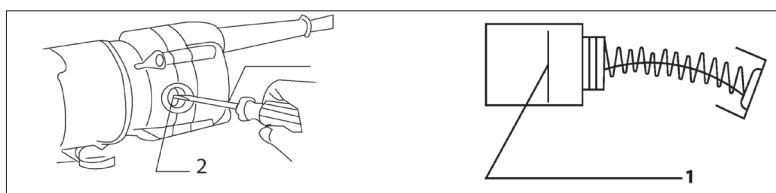

Fig.17
- b. Carbon brushes which are worn out (burned, broken or shorter than limited length see Fig.17) have to be replaced by new ones.